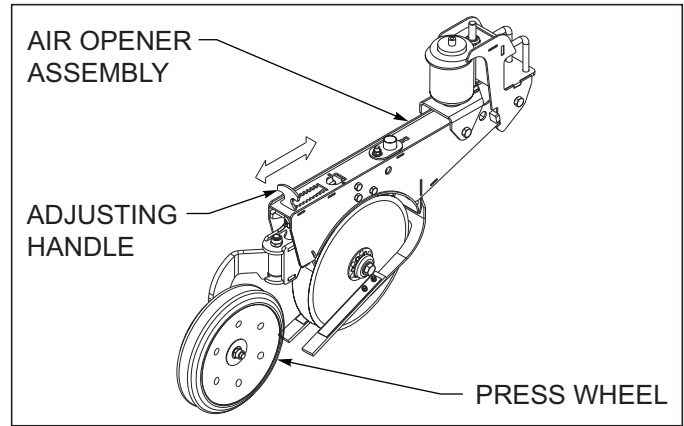

Figure 4-34: Press Wheel Adjustment
1. The seeding depth of each individual opener is controlled by the press wheel depth adjustment **See Figure 4-34**. To change the depth of each press wheel, raise the openers so there is not any weight on the press wheel. Pull up on the adjusting handle and slide the depth stop forward or rearward to obtain the desired seeding depth. Each notch represents approximately 5/16" in depth. Slide the handle forward for shallower seed placement, and rearward for deeper seed placement.